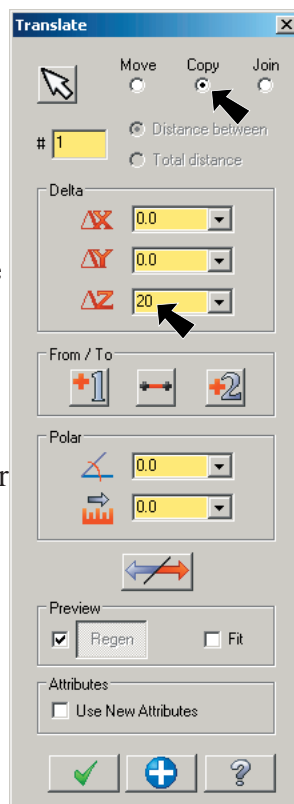

Fig. 35
Step 3. Set: Copy  **Z to 20** , **Fig. 35** and press **ENTER**.